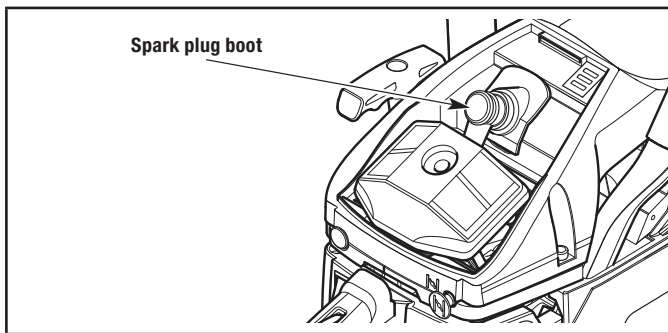

Figure 44
4. Grasp the spark plug boot firmly and pull it from the spark plug (Fig. 44).